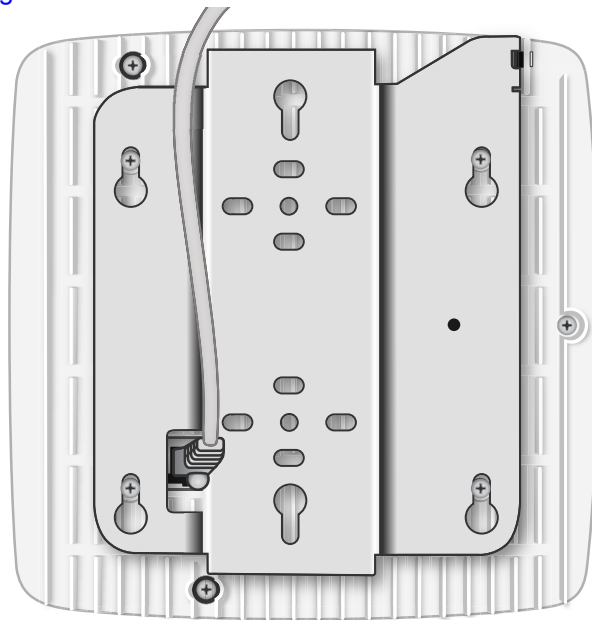

Figure 15 Route and Terminate the Cable
Step 2 Insert the RJ-45 connector through the rectangular bracket opening into the Ethernet port as shown in Figure 15: